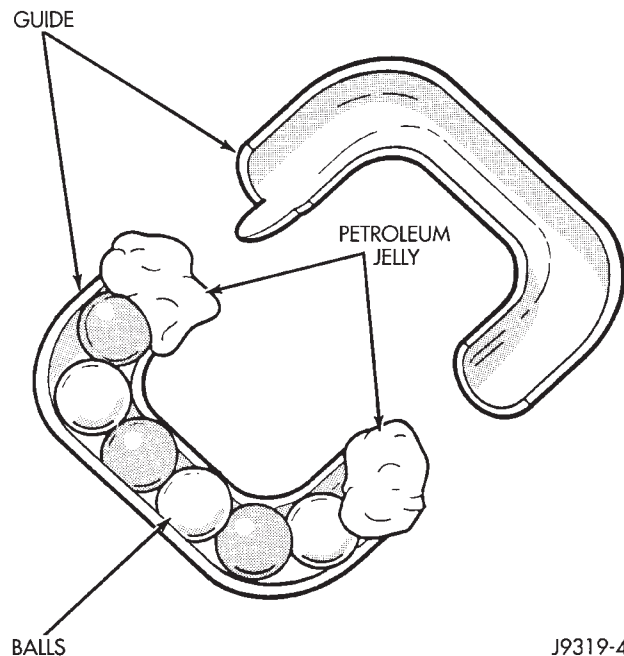

Fig. 25 Balls in the Return Guide
(5) Install remaining balls in guide using grease to hold the balls in place (Fig. 25).